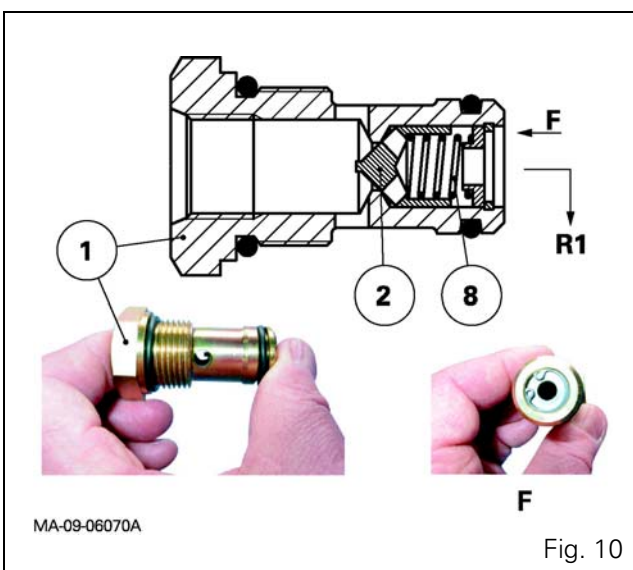

Fig. 10
It controls the oil coming from the cooling circuit, and maintains a lubricating pressure of approximately 1.5 bar in the circuit, due to the valve setting. If the pressure exceeds 1.5 bar, the spring (8) compresses, the valve (2) moves and oil flows to the return R1 (Fig. 10).